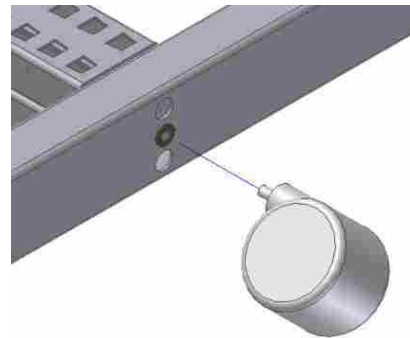

Fig 12
STEP 7b – Screw the **wheels** on to the rivets of the **bottom bar** (Fig. 12).